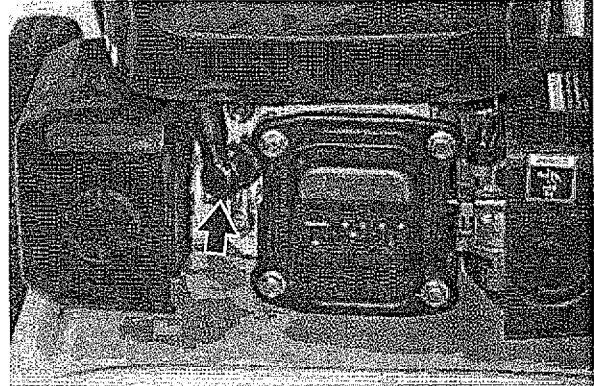

Figure 63 – Removal of Spark Plug Boot WP2500 and WP2800
3. Remove the spark plug boot by firmly pulling the plastic spark plug boot handle directly away from the engine (see Figure 63).